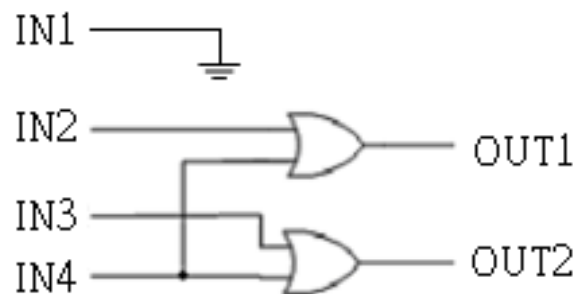

Figure 4-16
1. 4 to 2 decoder circuit as figure 4-16.